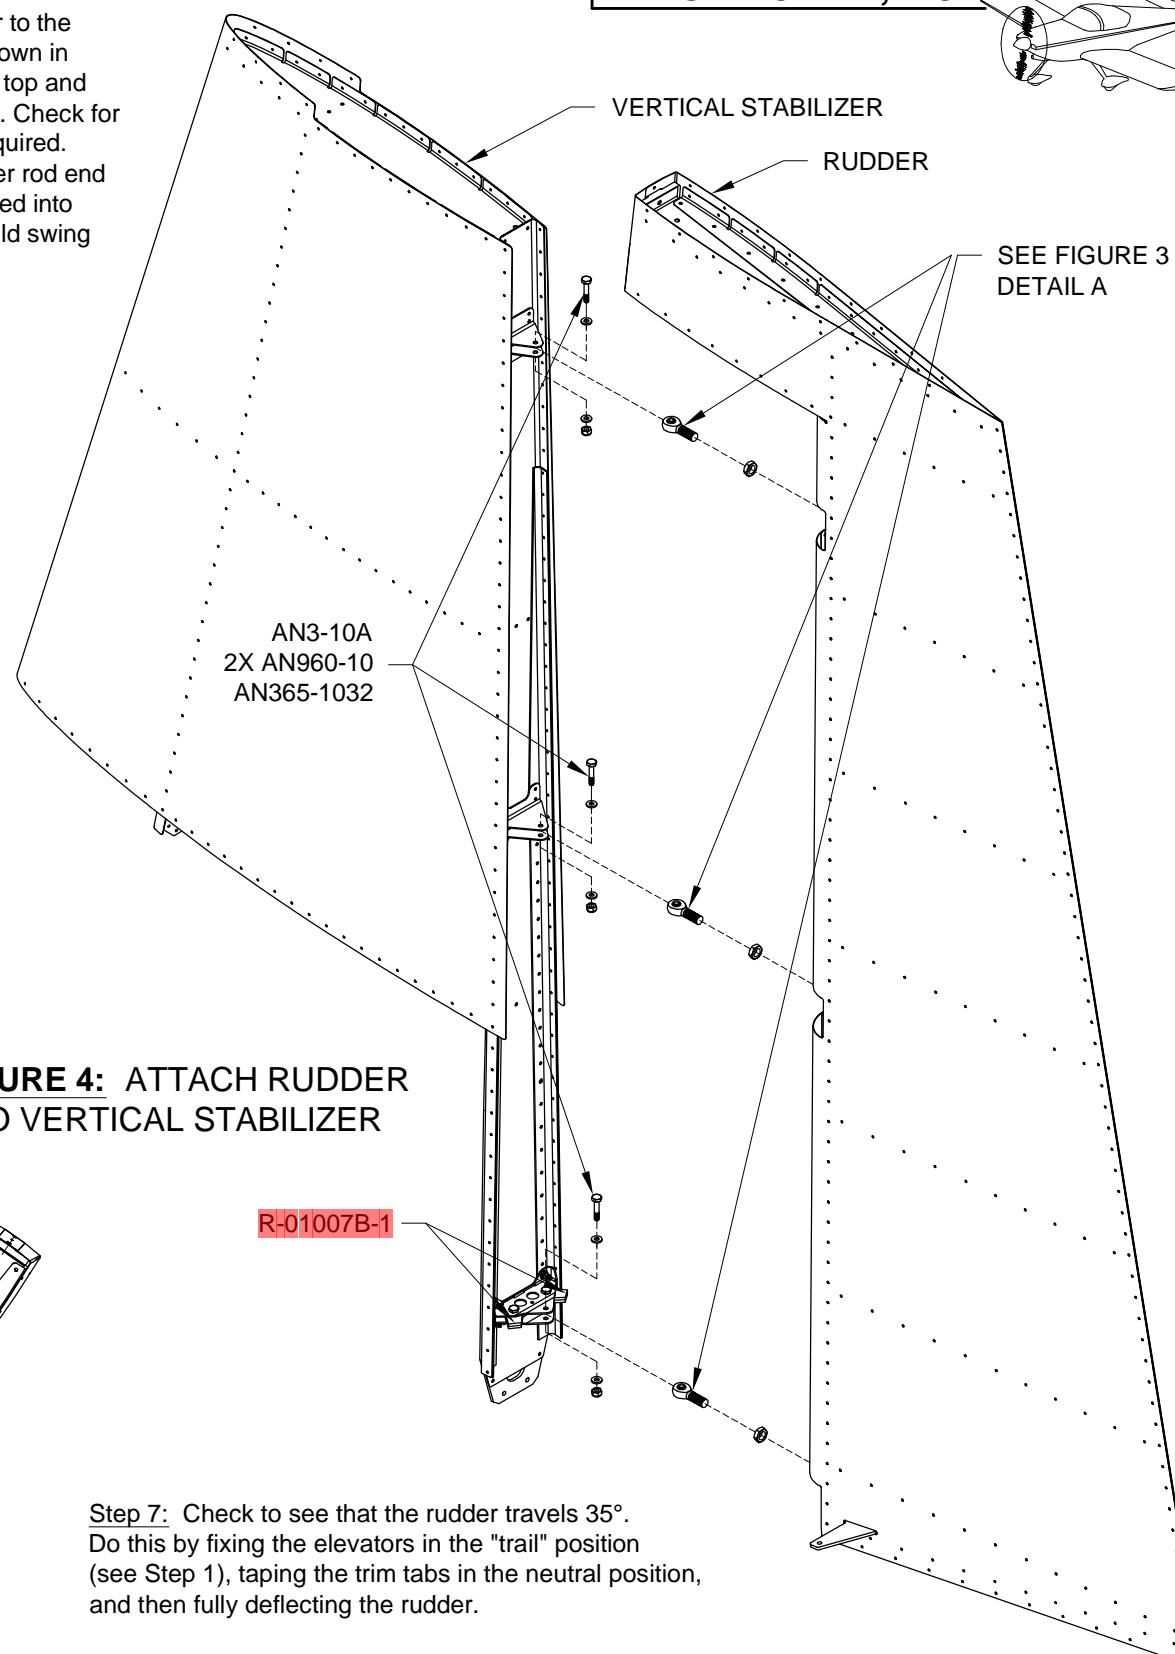

FIGURE 4: ATTACH RUDDER TO VERTICAL STABILIZER
Step 6: Bolt the rudder to the vertical stabilizer as shown in Figure 4 using only the top and bottom hinge hardware. Check for travel and adjust as required. Finally, adjust the center rod end until a bolt can be slipped into place. The rudder should swing freely.